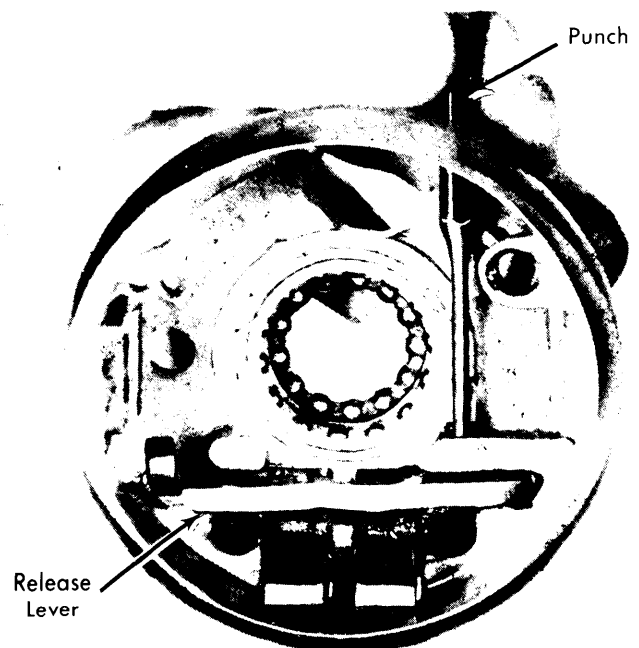

Fig. 11 Removing Release Lever Pin
13) Remove tilt release lever. Using a punch, drive out release lever pin. Compress lock shoe spring to release spring tension on pin (see Fig. 11).